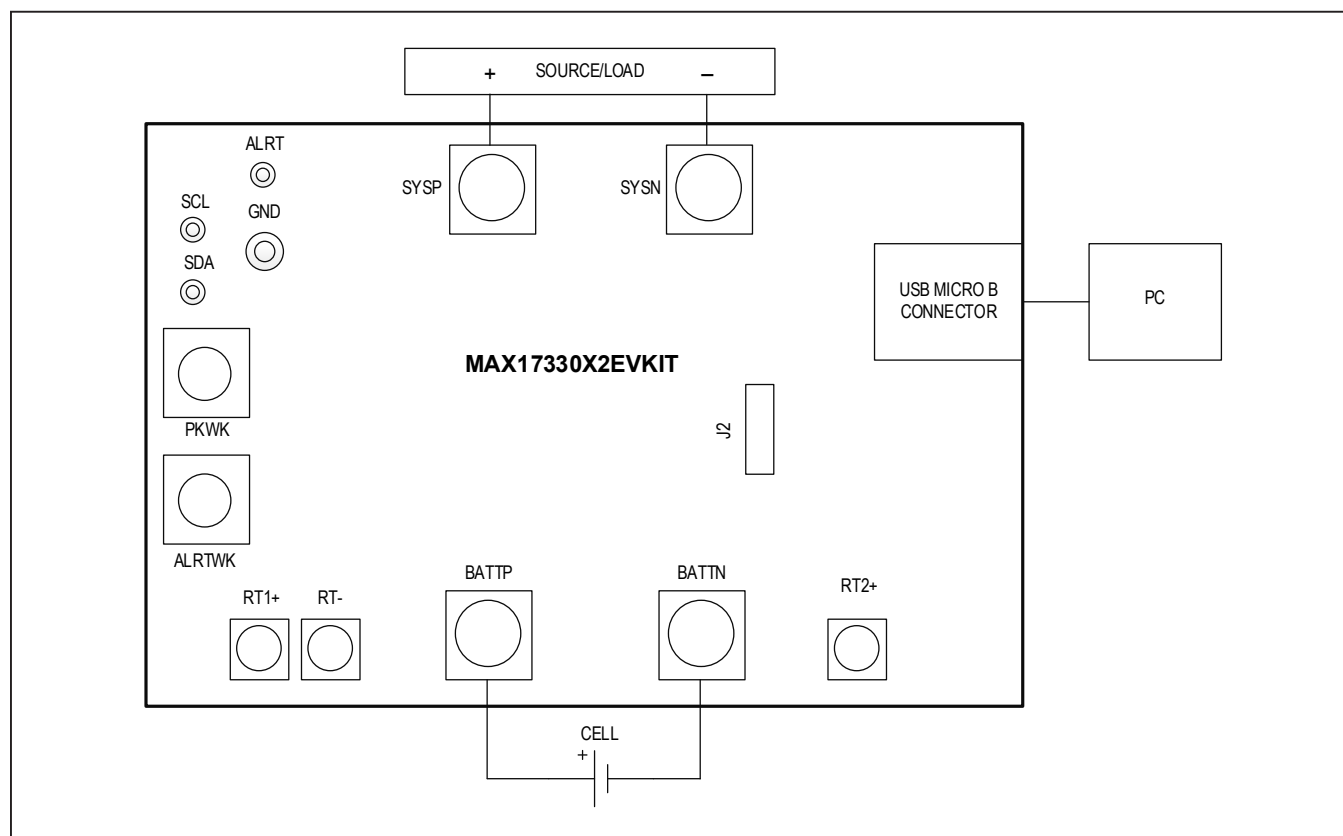

Figure 1. MAX17330 Board Connections
- 5) Make connections to the EV kit board based on Figure 1. The cell connects between the BATTN/ BATTN pads. The load or charger circuit can be connected between the SYSN and SYSP pads at this time as well.